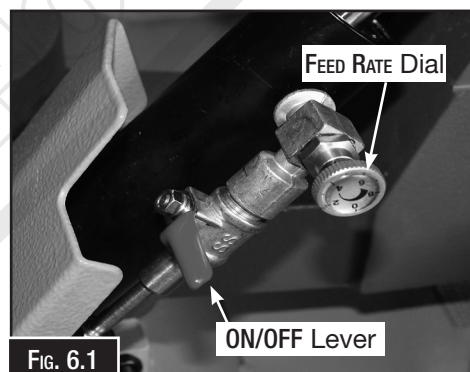

FIG. 6.1
2. Raise the bow saw for access and turn the feed ON/OFF lever to hold the bow saw up. (Fig. 6.1)